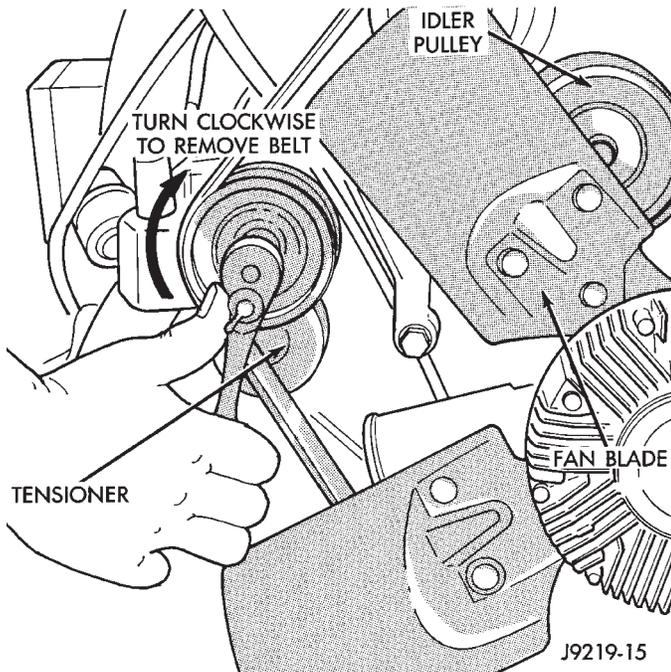

Fig. 57 Belt Tensioner Assembly—5.2/5.9L Engines
- (8) Remove accessory drive belt as follows: The drive belt is equipped with a spring loaded automatic belt tensioner (Fig. 57). Relax tension from belt by rotating tensioner clockwise (as viewed from front)
(Fig. 57). When all belt tension has been relaxed, remove accessory drive belt.
(7) Connect throttle body control cables.
(8) Install oil dipstick mounting bolt.
(9) Install idler pulley. Tighten pulley bolt to 54 N·m (40 ft. lbs.) torque.
(10) Relax tension from belt tensioner (Fig. 57). Install drive belt.